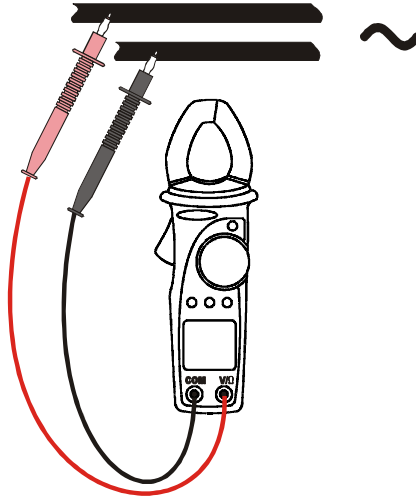

Fig. 6: frequency measurement with test leads
4. Connect the test leads to the circuit under test (see Fig. 6). The measured frequency value is displayed.
4. Connect the test leads to the circuit under test (see Fig. 6). The instrument displays the Total Harmonic Distortion value of the input signal. The symbol "**THD%**" is shown on the display. See chapter 6 for the parameter's definition.